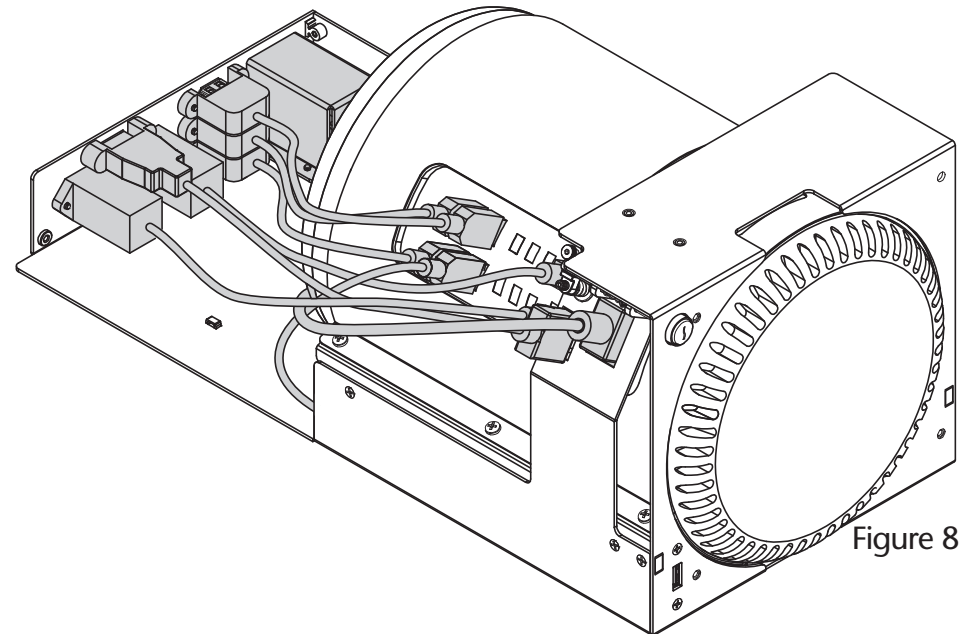

Figure 8
- Connect the computer mounting module's Gigabit Ethernet, HDMI, power, and USB 3.0 cables to the corresponding ports on the computer (Figure 8).